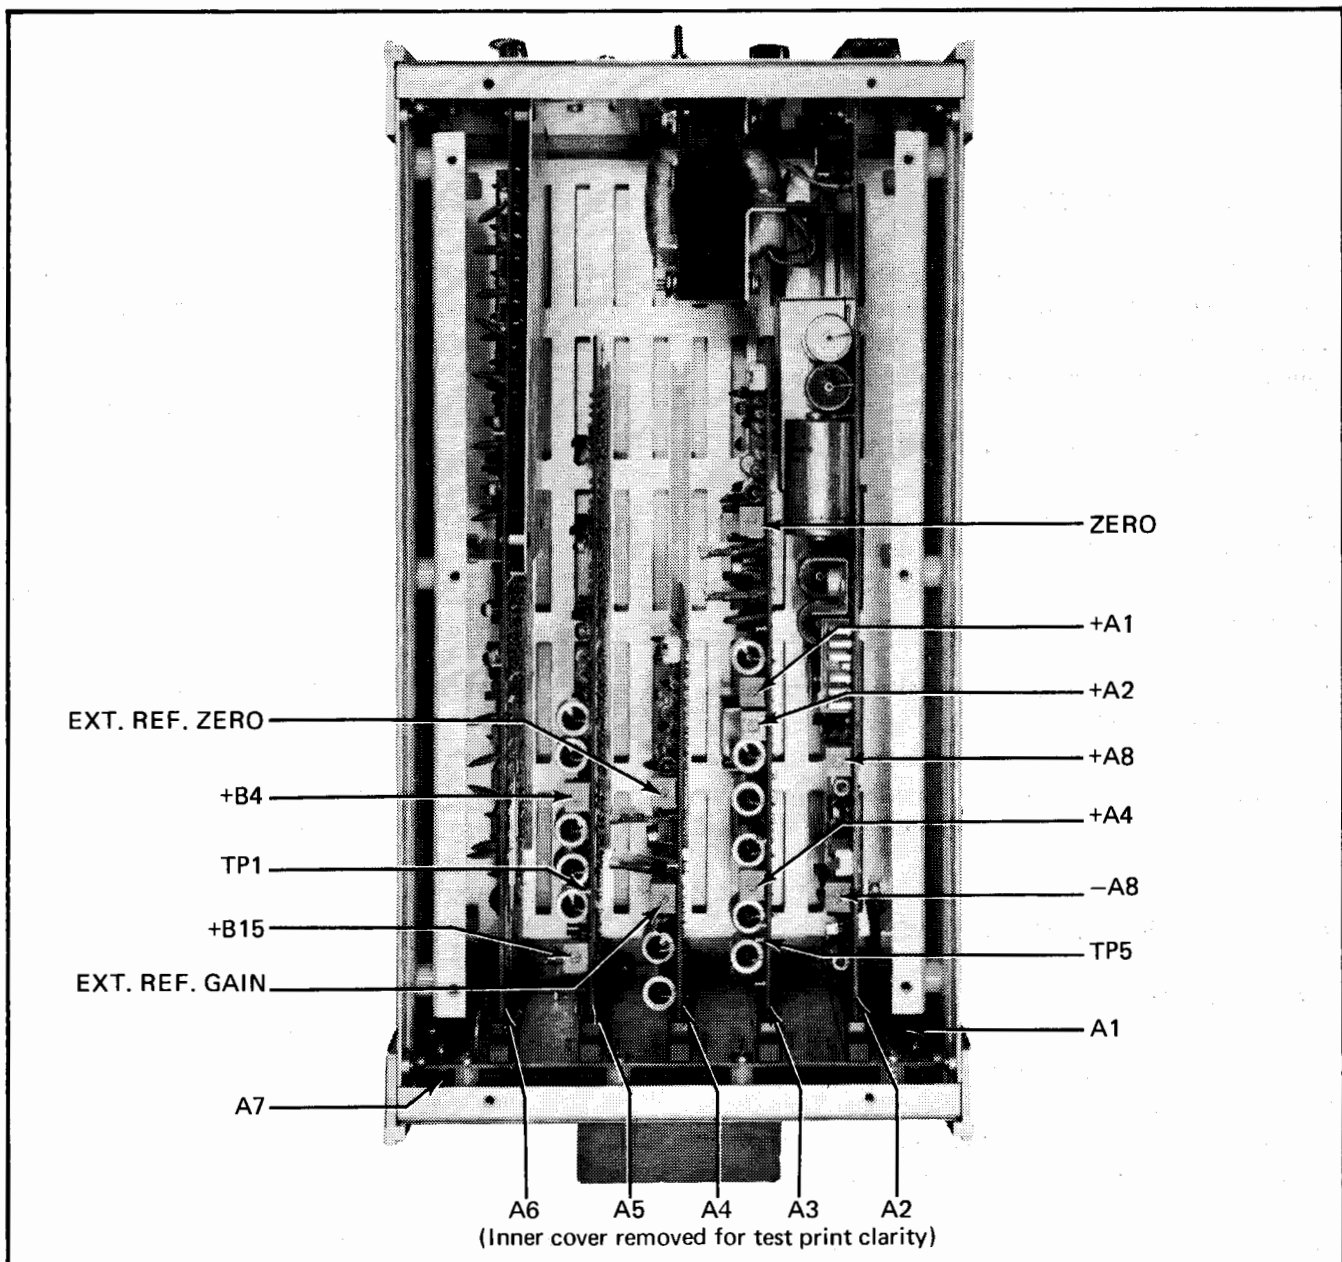

Figure 4-1. ASSEMBLY, ADJUSTMENT, AND TEST POINT LOCATIONS
- c. Remove the inner guard cover. Access is now provided for removal of the A3 through A4 pcb assemblies shown in Figure 4-1.
4-14. The power source should be calibrated every 90 days or whenever repairs have been made. Recommended test equipment is listed in Table 4-1. If the recommended equipment is not available, substitute equipment having equivalent specifications can be used. Assembly and adjustment locations are shown in Figure 4-1.